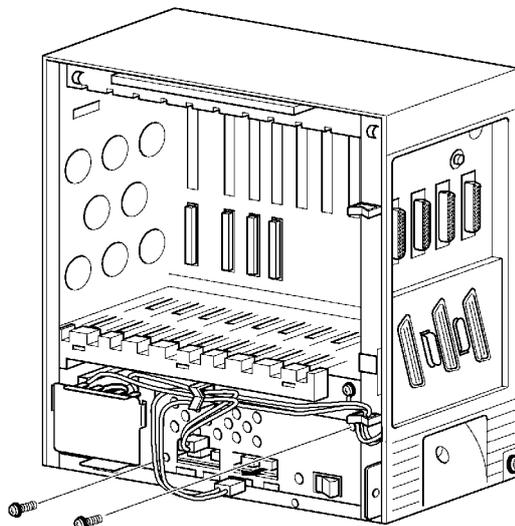

Figure 4-23 Mounting the PSU onto the KSU
2. Install the P64-U13 PSU into the bottom space of the KSU and attach to the KSU using the two provided screws. Refer to *Figure 4-23 Mounting the PSU onto the KSU*.